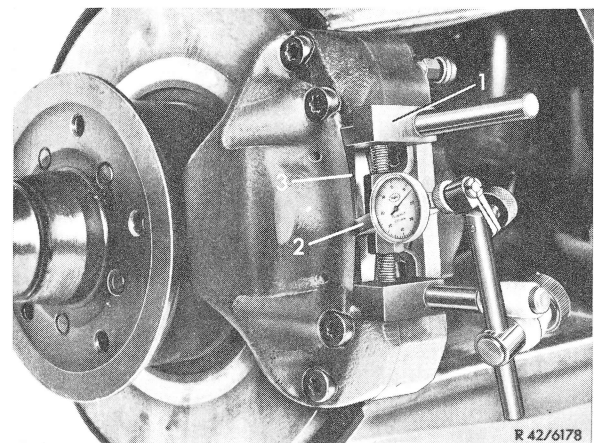

Fig. 2
- 2 Insert gauge block (3) instead of brake shoes into caliper. Then actuate brake pedal several times to move pistons into contact with gauge blocks (Fig. 2).
- 4 Attach release clearance measuring instrument (1) to caliper (Fig. 2).
- 5 Position feeler of dial gauge (2) through cutout in gauge block against piston in such a manner that the dial gauge is under a slight preload (Fig. 2).